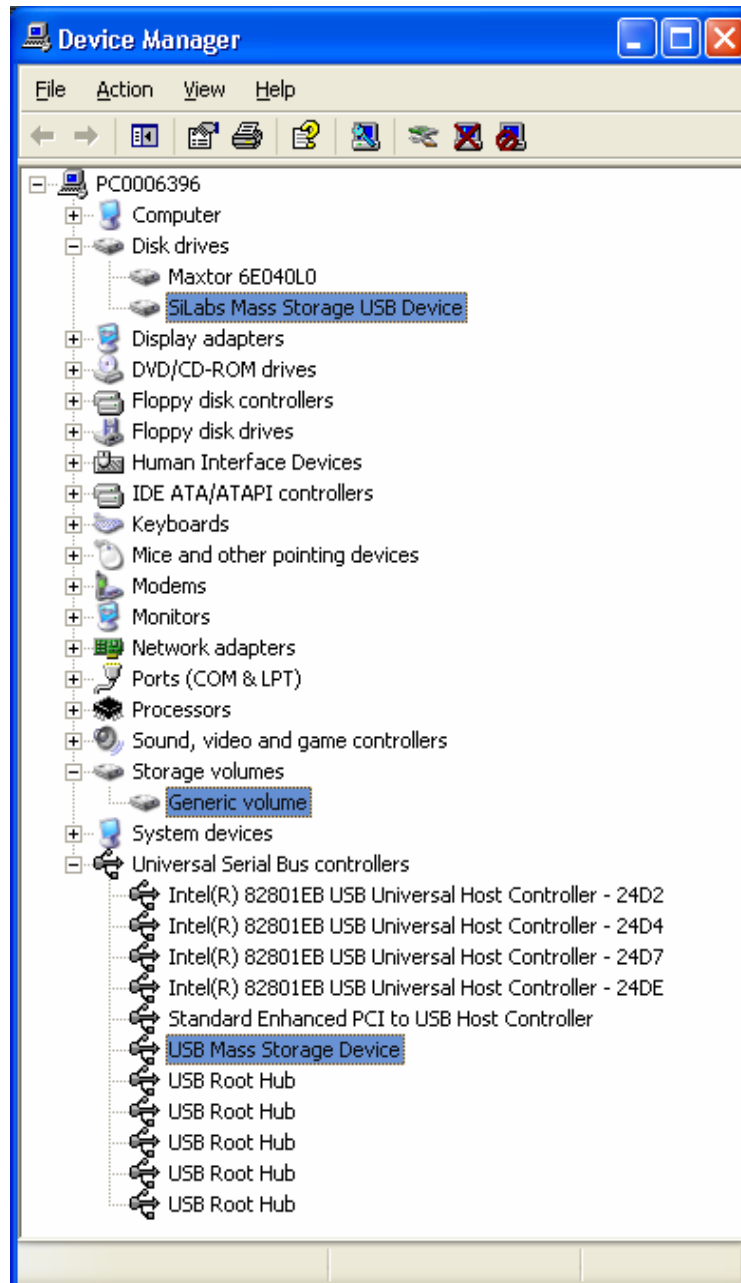

Figure 11. USB Mass Storage Device - Device Manager
2. The operating system will detect the new hardware, recognize it as a standard USB Mass Storage Device, and install appropriate drivers. There should be no need for any user interaction during this phase. At the end of this process, you will see three entries in Device Manager, and you should also see a Removable Disk in Windows Explorer. See Figures 11 and 12.